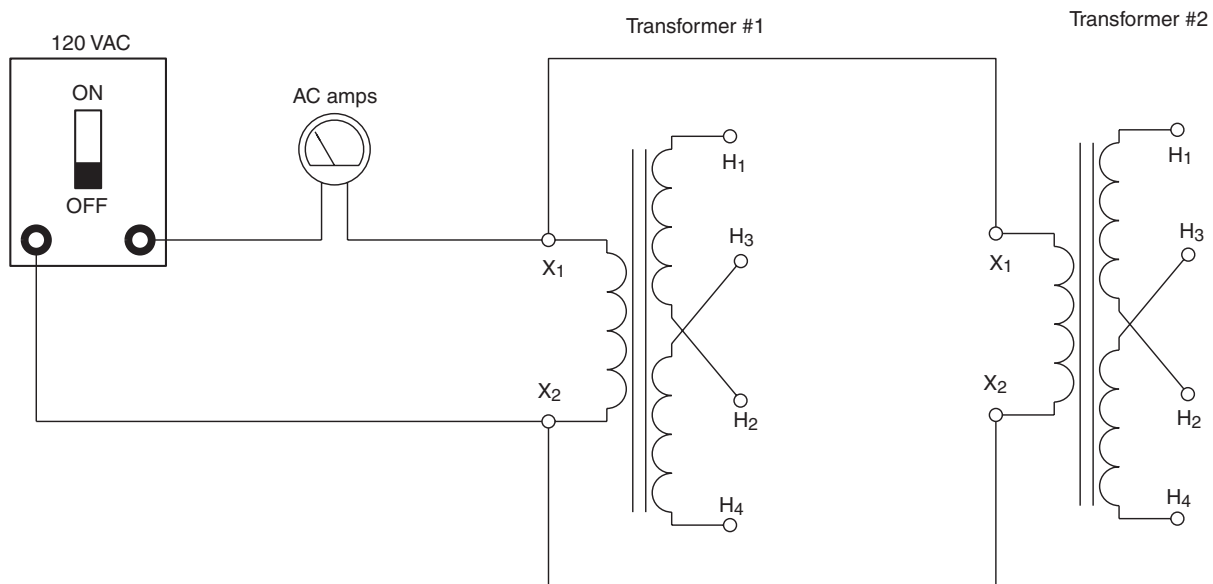

Figure 10-4 Parallel inductors.
25. Using both transformers, connect the circuit shown in Figure 10-4.
27. Calculate the value of X_L for the circuit shown in Figure 10-4. Use the value of L_T as calculated in step 26 for the value of L in the formula.